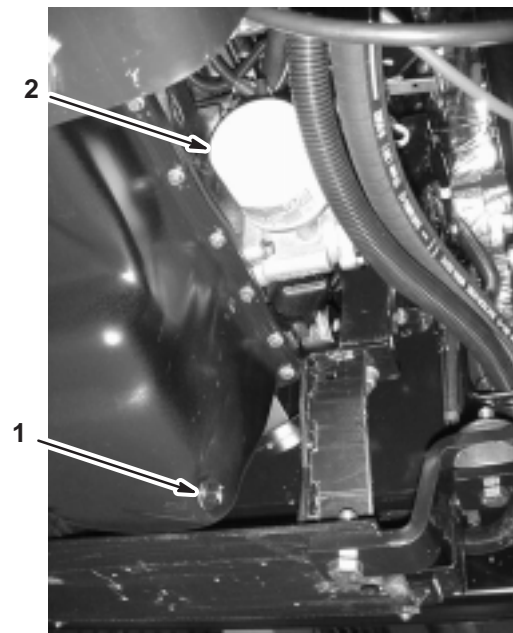

Figure 30
6. Remove the drain plug (Fig. 30).
8. Remove the old oil filter (Fig. 30).
11. Install the replacement oil filter to the filter adapter. Turn the oil filter clockwise until the rubber gasket contacts the filter adapter, then tighten the filter an additional 1/2 turn (Fig. 30).